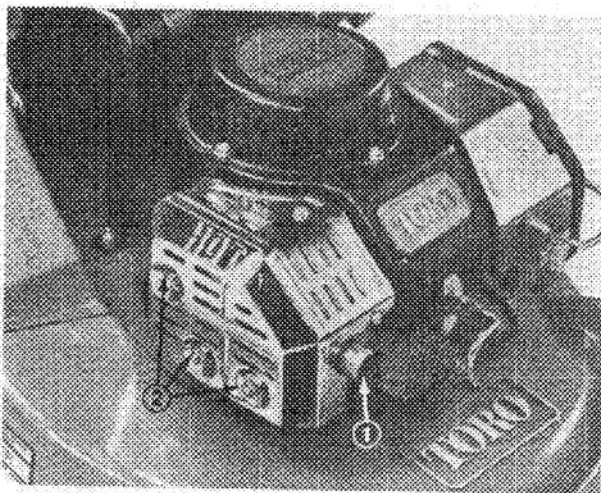

Figure 24
- 1. Use hard wood scraper and remove carbon from end of muffler pipe (Fig. 24).
2. Remove screw and two nuts and lockwashers (Fig. 24). Slide muffler off mounting pins.
5. Install muffler with screw, two nuts and lockwashers (Fig. 24).